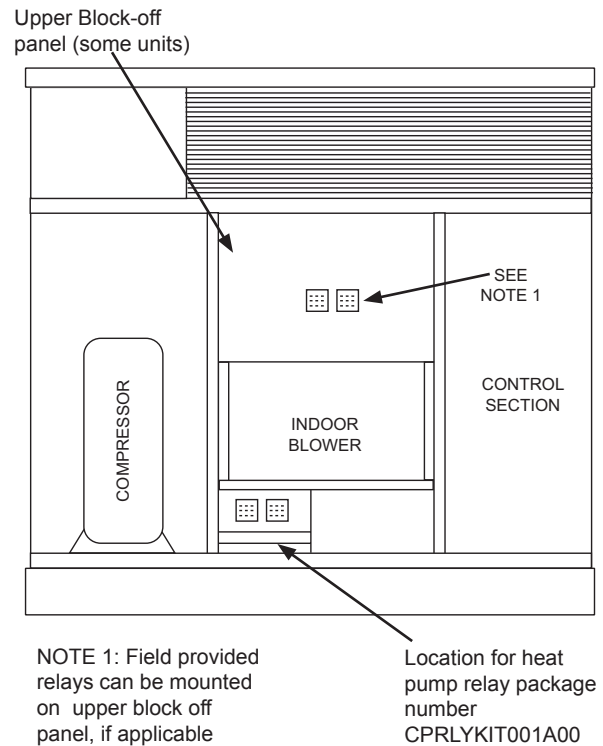

Fig. 12 - Relay Kit Location
A. If the optional relay kit CPRLYKIT001A00 is used, it will mount underneath the indoor blower as shown in Fig. 12 & 13. Follow instructions sent with the package.
B. If relays are field provided and installed, they can be mounted above the upper block off panel, as shown in Fig. 12. Use caution to ensure screws do not interfere with blower operation, Blunt end screws are recommended.
C. If no upper block off panel is present mount relays on compressor partition below indoor blower on left as shown in Fig. 12.